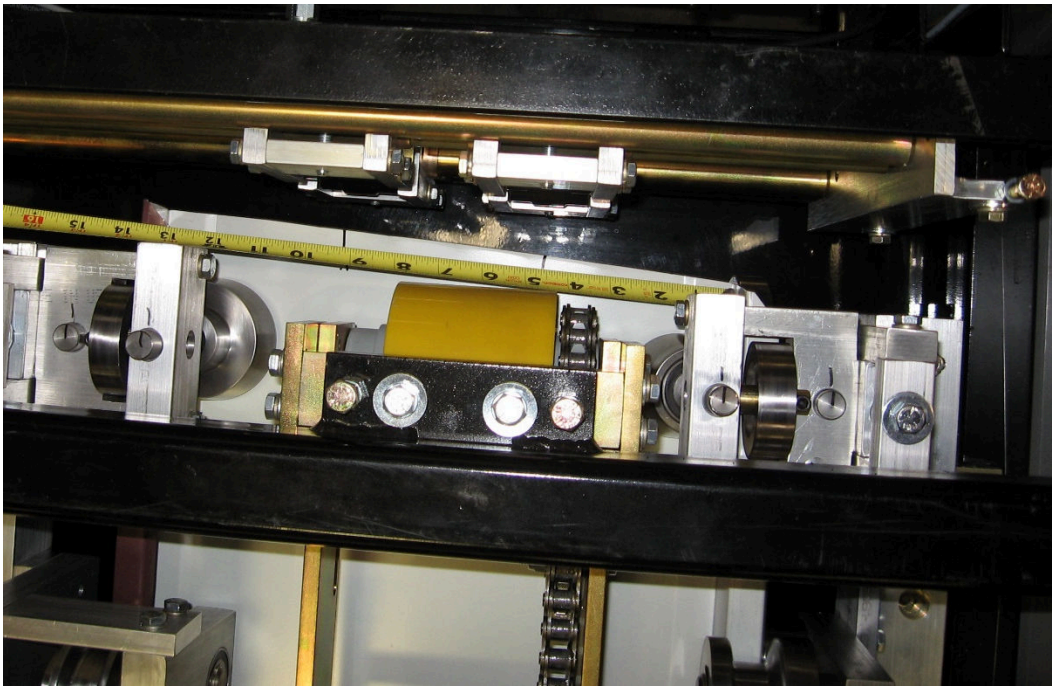

Figure 72: Spacing Bead Rollers
22. If the panel requires beads, determine the spacing needed. For Example: a 12" wide panel with 2 beads centered on the panel would give 3 equal spaces or 12" divided by 3, which equals 4" from center to center of each bead. **Shut the machine off and lock it out**, then hook the end of a tape measure on the outside bottom corner of the female leg. Use a magic marker or grease pencil to mark the 4" and 8" locations on the panel. There will now be 3 equal spaces. (Figure 72)